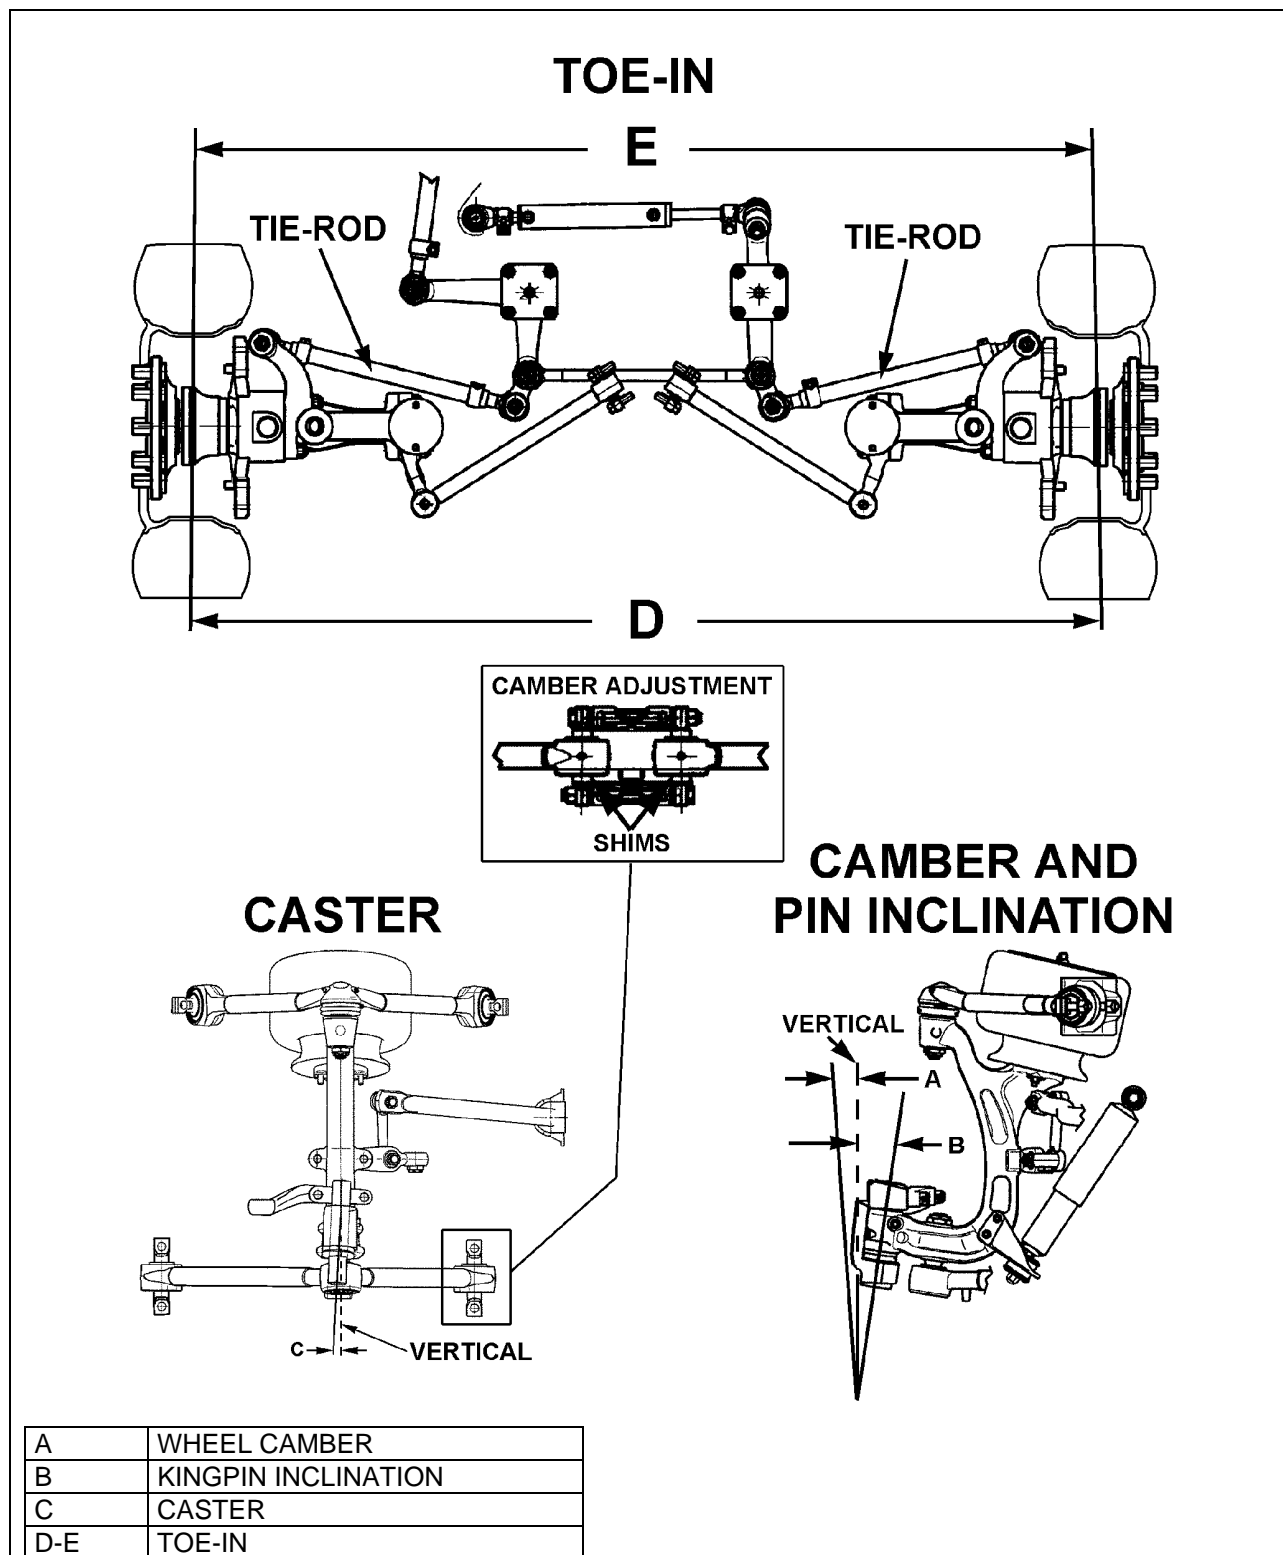

FIGURE 27: FRONT END ALIGNMENT DIAGRAM
**Wheel Camber:** Camber is the number of degrees the top of the wheel is tilted inward or outward from a true vertical (fig. 27).
**Wheel Toe-In:** a slight forward convergence given to the wheels of motor vehicles to improve steering and equalize tire wear (D minus E, fig. 27).
**Kingpin Inclination:** The inclination of the kingpin from vertical toward the center of the vehicle at the top and outward at the bottom (B, fig. 27).
**Front Axle Caster:** The inclination of the kingpin from vertical in the fore and aft direction (C, fig. 27).